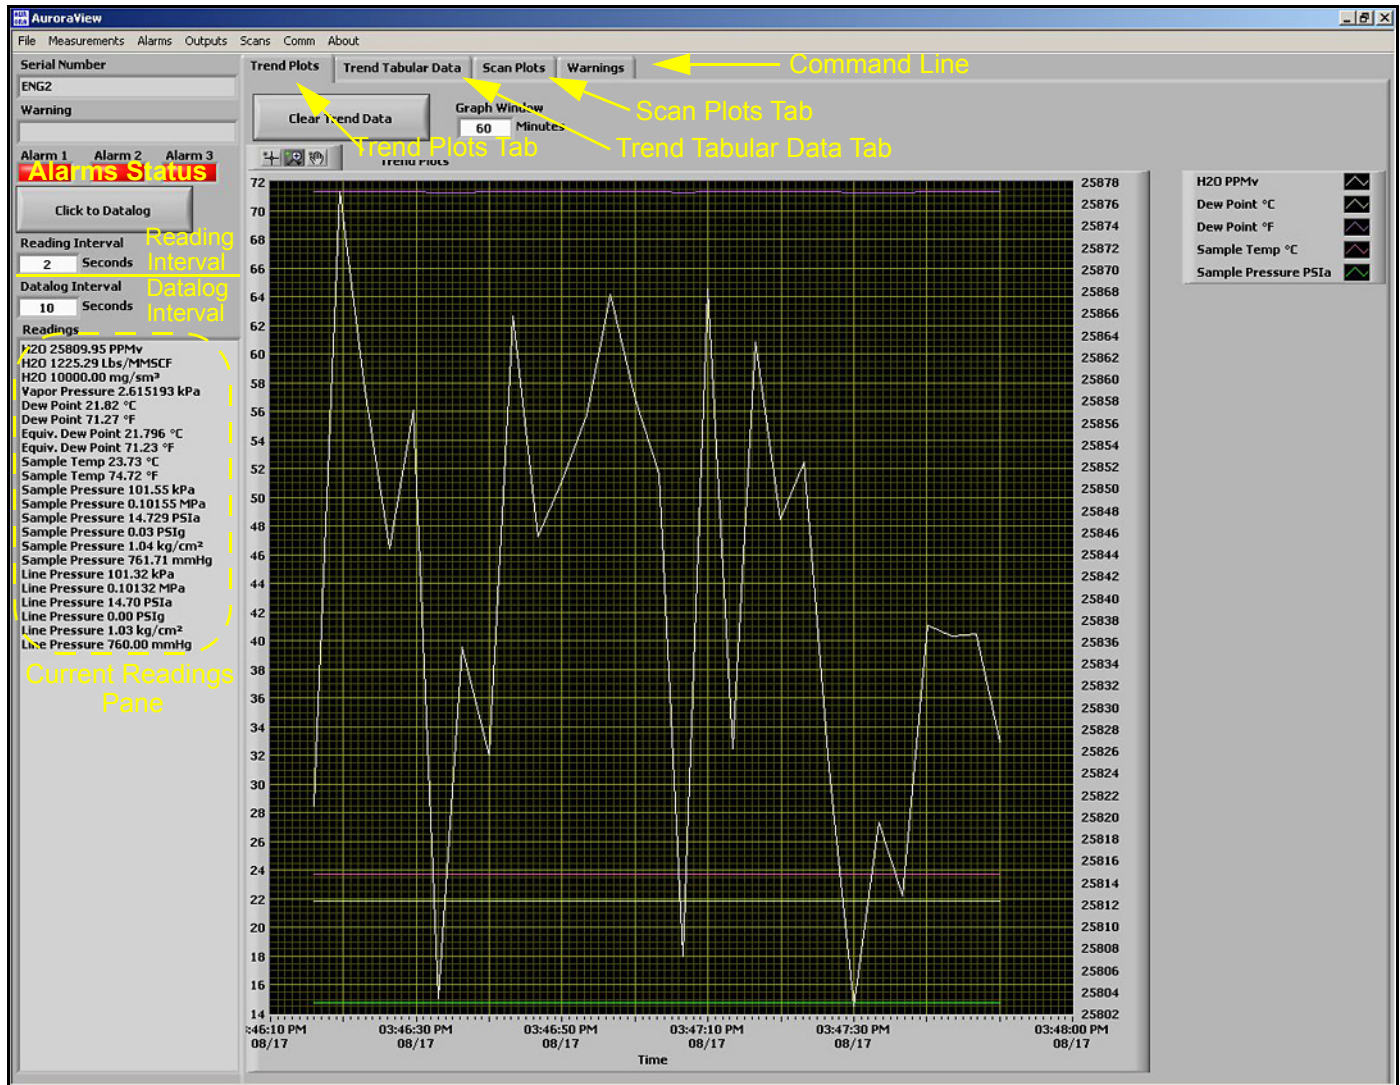

Figure 55: AuroraView Main Screen
- AuroraView boots up and displays a screen similar to *Figure 55* below.